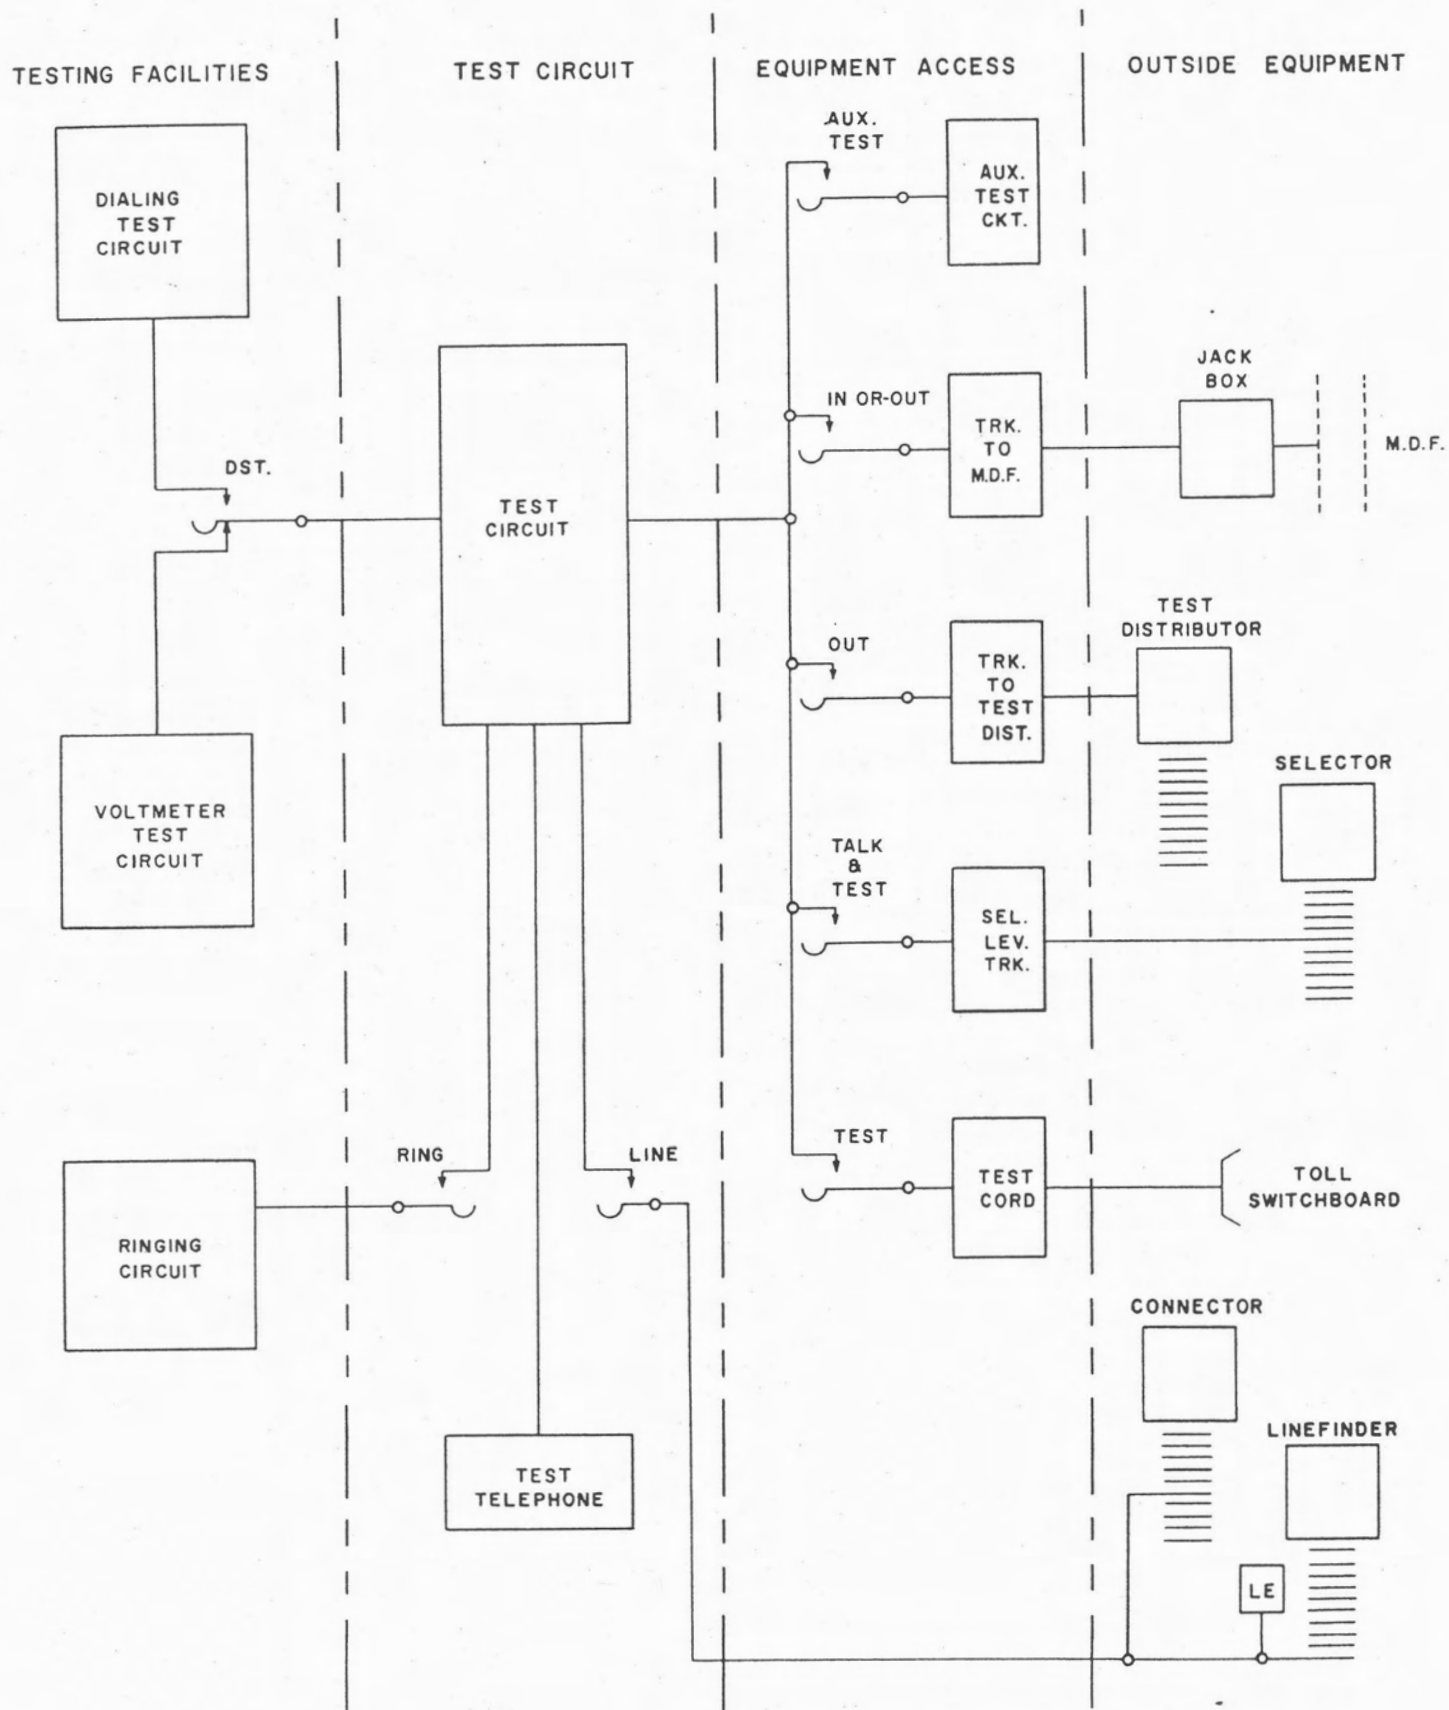

Figure 11. Block diagram of type 21 circuit arrangements.
4.1 General. The block diagram (figure 11) shows the test turret divided into four sections.